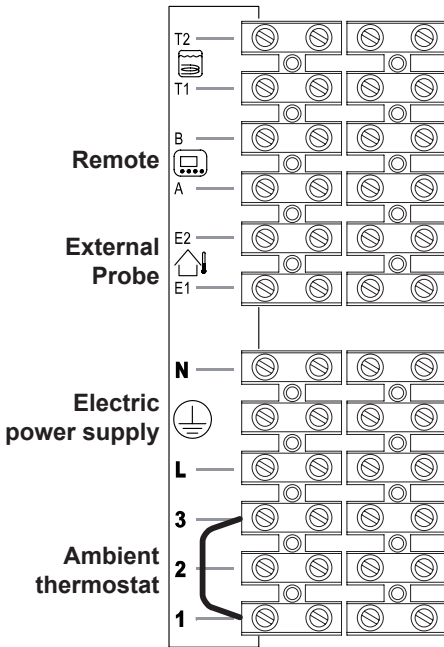
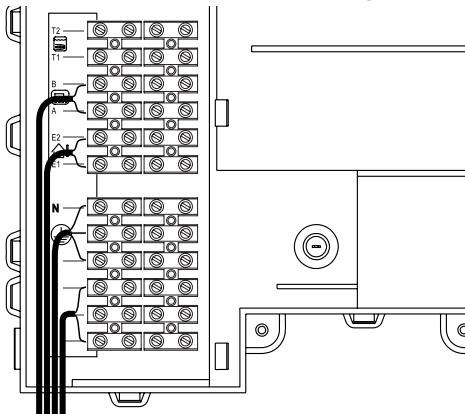
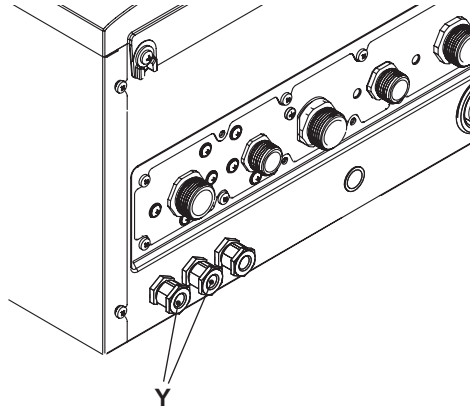

Fig. 6.17
Fig. 6.18
Fig. 6.19
- Connect the electric power supply cable coming from the fused spur isolation switch to the power supply terminal block of the boiler Fig. 6.17 keeping the same connections for the live (brown wire) and the neutral (blue wire). External 3A fuse or fused plug with same current rating is recommended.
The route of the boiler and ambient thermostat's electric power supply cable or wires must follow the route indicated in Fig. 6.18.
Allow the cables to exit the boiler by using the relevant cable clamps Y (Fig. 6.19).
Use the clamps indicated in Fig. 6.17 to connect the ambient thermostat.
Use the ambient thermostat's clamps indicated in Fig. 6.17 and Fig. 6.18 to connect the zone valve. Insert the electric cables of the zone valve's micro switch contacts in clamps "1 and 3" of the ambient thermostat's terminal block as in Fig. 6.18.
The route of the boiler and ambient thermostat's electric power supply cable or wires must follow the route indicated in Fig. 6.18. Allow the cables to exit the boiler by using the relevant cable clamps Y (Fig. 6.19).
The route of the external probe's connection wires must follow the route indicated in Fig. 6.18.
relevant cable clamps Y (Fig. 6.19).
The route of the remote control cable must follow the route indicated in Fig. 6.18. Allow the cables to exit the boiler by using the relevant cable clamps Y (Fig. 6.19).